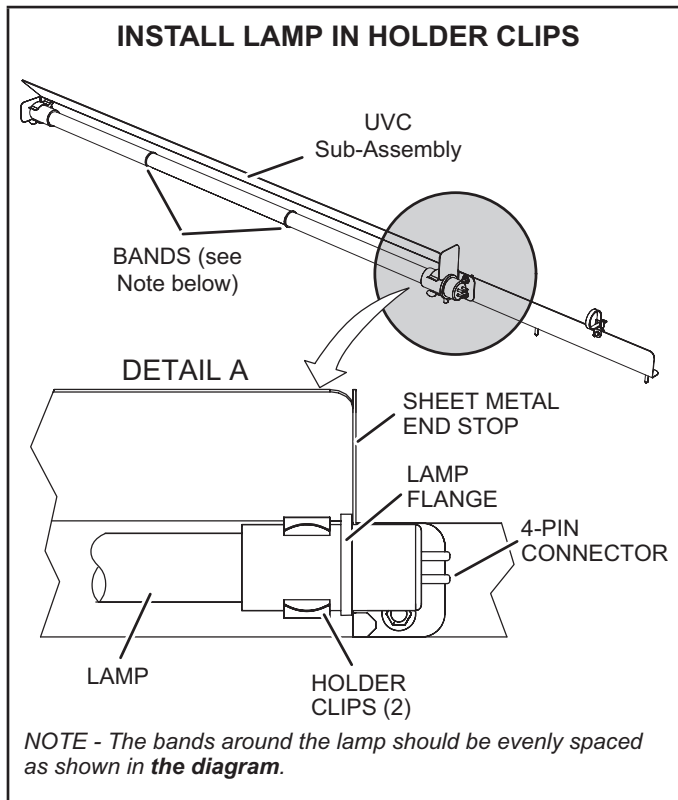

FIGURE 40
- 7 - Wear cotton gloves or use a cotton cloth when handling the new lamp. Place the new lamp in the holder clips of the UVC assembly. Verify that the lamp flange at the connector end is sandwiched between the lamp holder clip and the sheet-metal end stop (see FIGURE 40).